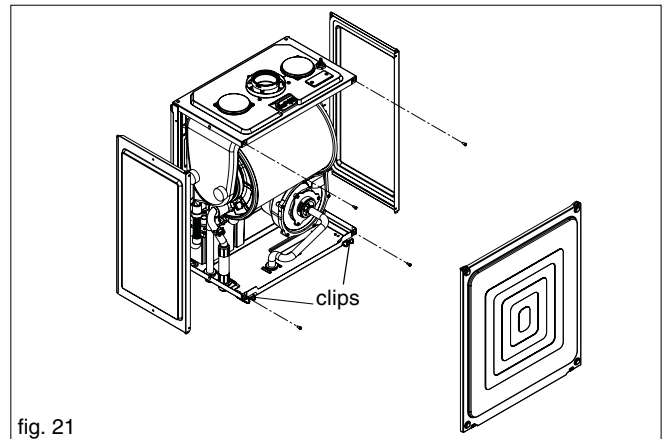

fig. 21
6.4.1 AIR BOX FRONT COVER REMOVAL (fig. 21)